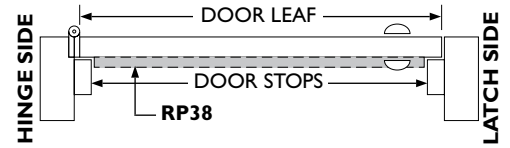

FIG.4
STEP 3 Machine cut RP38 less 5mm to allow morticing of escutcheon plates. Cut back latch side only. Remove any burrs. (FIG.1 & FIG.2) Cut gasket with a sharp wet knife. (FIG.4)
STEP 4 Drill and countersink mounting holes in housing flange to suit 8 gauge screws supplied. (FIG.4)
STEP 5 Wind adjustment nut clockwise until it returns fully back into housing. (FIG.4)